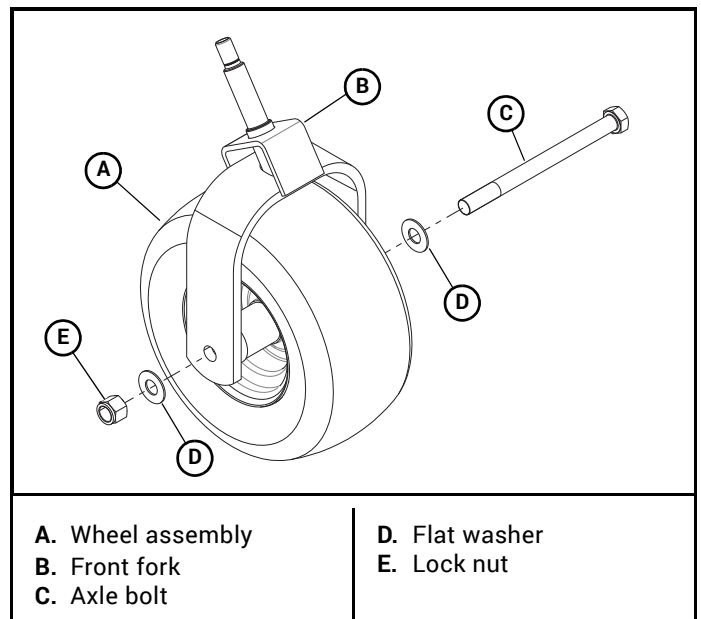

Figure 4-37
7. Slide the wheel assembly between the caster fork legs and assemble to the fork using the axle bolt, flat washers, and lock nut. Figure 4-37